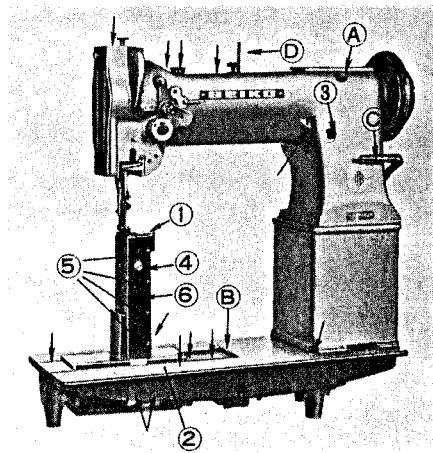
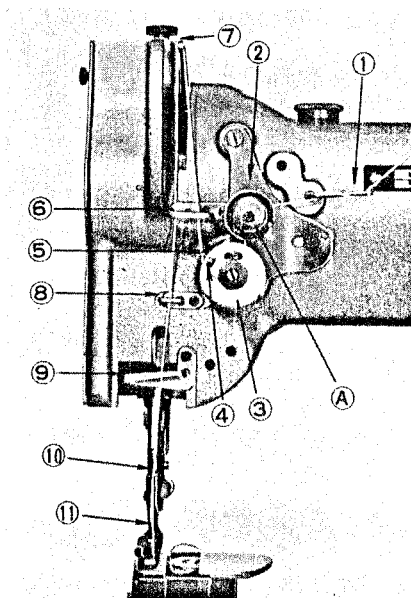

Fig. 1
Fig. 9
### UPPER THREADING (Refer to Figs. 1 & 9)
Pass the thread from the unwinder from back to front through the lower hole in the pin (D, Fig. 1) from the right to the left through the upper hole in the pin, down through three holes (1, Fig. 9) in the thread guide, over from right to left between the tension discs (2), down from right to left around the thread controller (3) up into the fork (4) and (5) in the thread controller disc, up through the thread guide (6), from right to left through the hole (7) in the thread take-up lever, down through the thread guides (6), (8), (9) and (10) and from left to right through the eye of the needle (11). Lay about 5 cm long of thread with which to commence sewing.
The tension on the upper and lower thread should be equal so as to lock both threads in the center of the material to be sewn. The tension of the upper thread is adjusted by the screw nut (A, Fig. 9).
To change the length of stitch, open the arm cap (A, Fig. 1), where numeral numbers showing the length of stitch can be seen.
Press down the button (B, Fig. 1) in the bed plate of the machine and simultaneously turn the hand wheel slowly toward you.